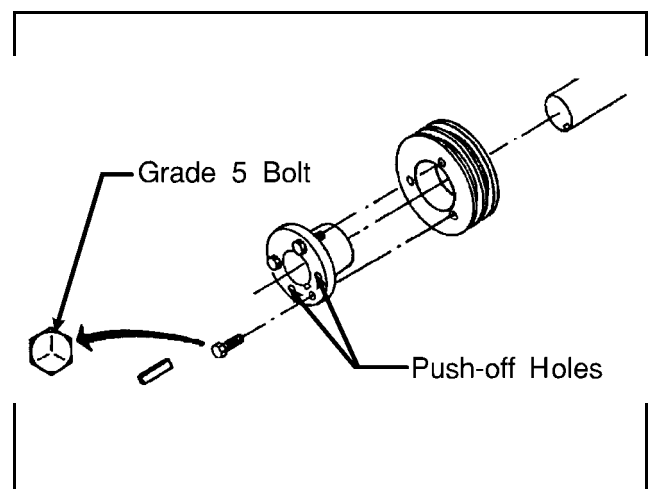

FIGURE 4 (MSSM0706BE)
1. Loosen and remove all three bushing screws. Thread two screws into the push-off holes in the bushing (FIGURE 4) and alternately tighten them until the bushing and pulley separate and can be removed from the shaft.